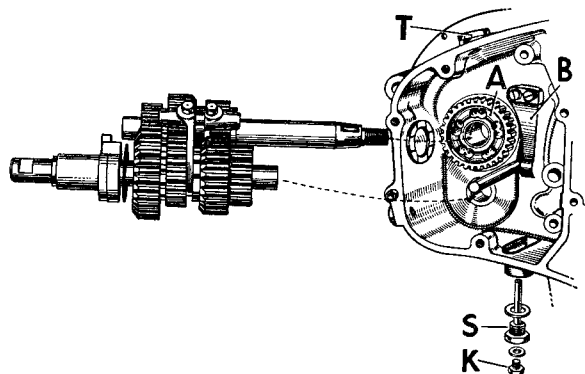

FIG. 35. GEAR CLUSTER OF THE 250 STAR GEARBOX
The camplate spring B (see Fig. 35) can be detached if necessary, otherwise it can be left undisturbed. The whole of the gear cluster, together with the mainshaft, layshaft and selector forks can now be withdrawn, leaving the selector fork spindle and also the sleeve pinion (A) in the box. Whilst some of the gears will literally slide off their shafts, it should be